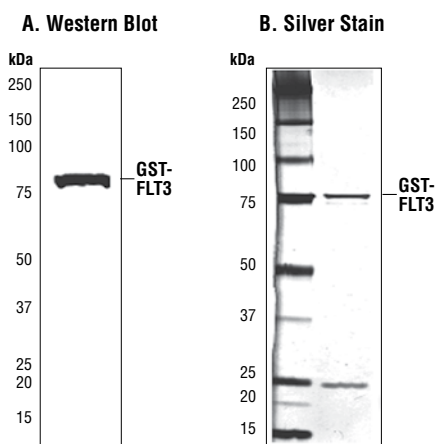

Figure 1. The purity of the GST-FLT3 fusion protein was analyzed using SDS/PAGE followed by anti-FLT3 Western blot (A) or Silver stain (B).
**Background:** FMS-related tyrosine kinase 3 (FLT3, also called Flk2), is a member of the type III receptor tyrosine kinase family, which includes c-Kit, PDGFR and M-CSF receptors. FLT3 is expressed on early hematopoietic progenitor cells and supports growth and differentiation within the hematopoietic system (1,2). FLT3 is activated after binding with its ligand FL, which results in a cascade of tyrosine autophosphorylation and tyrosine phosphorylation of downstream targets (3). The p85 subunit of PI3 kinase, SHP2, GRB2 and Shc are associated with FLT3 after FL stimulation (4-6). Tyr589/591 is located in the juxtamembrane region of FLT3. It may play an important role in regulation of FLT3 tyrosine kinase activity. Somatic mutations of FLT3 consisting of internal tandem duplications (ITDs) occur in 20% of patients with acute myeloid leukemia (7).
**Quality Control:** The theoretical molecular weight of the GST-FLT3 fusion protein is 82 kDa. The purified kinase was quality controlled for purity using SDS-PAGE followed by Silver stain and Western blot (Fig.1). FLT3 kinase activity was determined using a radiometric assay (Fig.2). A kinase dose dependency assay was performed to measure FLT3 activity using HTScan™ FLT3 Kinase Assay Kit 7743 (Fig.3).